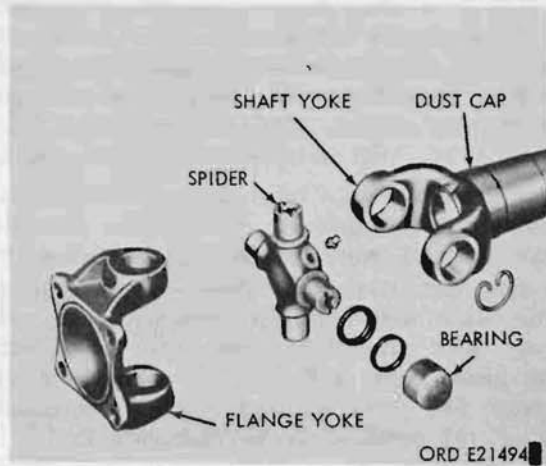
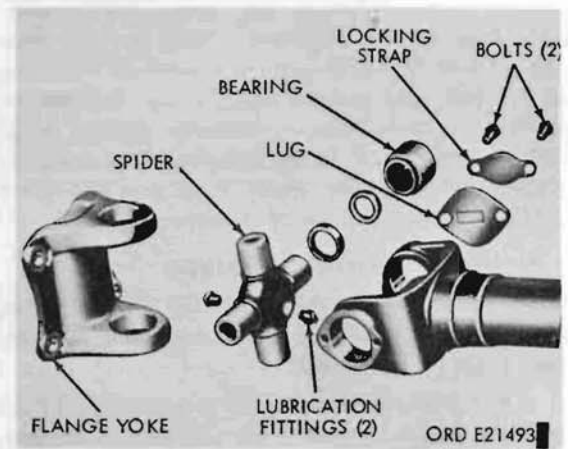

Figure 196. Snapping-type universal joint.
Figure 197. Bearing cap-type universal joint.
c. Universal Joints. There are two basic types of universal joints used on the trucks, the snapping type (fig. 196), and the bearing cap-type (fig. 197). The forward-axle-to-rear-axle and transfer-to-front-axle-propeller shafts are of the snapping type. The transmission-to-transfer, the transfer-to-forward-rear-axle, and (on the M46 truck) intermediate-to-forward-rear-axle propeller shafts are of the bearing-cap type. The M46 truck intermediate propeller shaft has a single universal joint of the bearing-cap type.
b. Snapping Type (fig. 196).